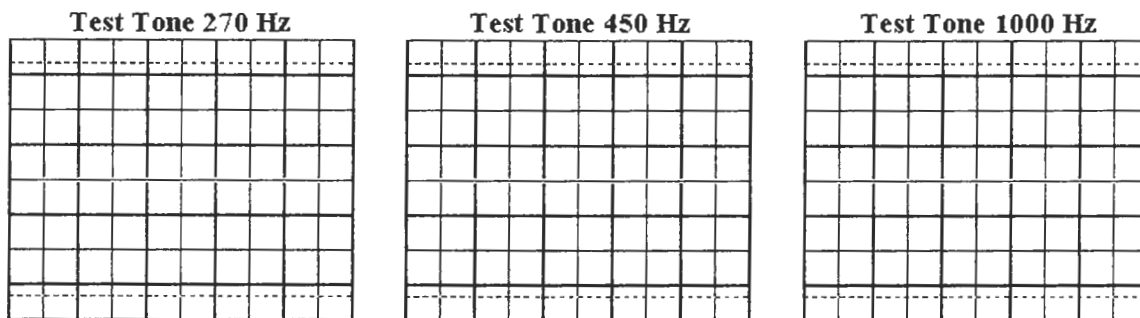

Figure L49-16
- There are three test tones on the CD. Draw each tone at full volume or 250 mV (whichever is less) on the scope faces provided in Figure L49-16.